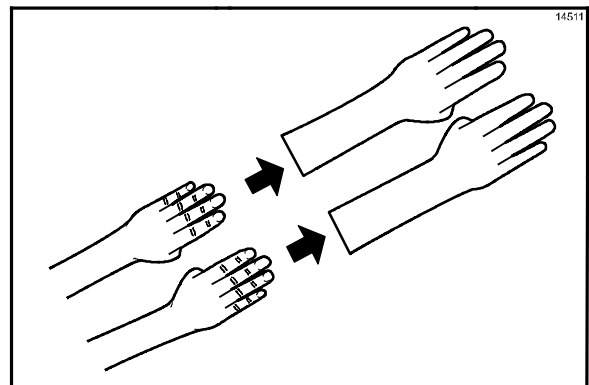

Figure 16
7. Put on heat-resistant gloves. (See Figure 16.)